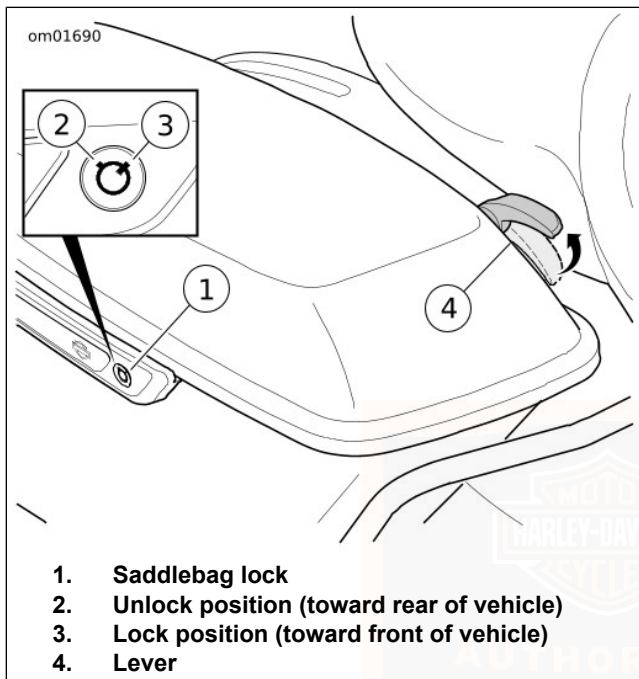

Figure 60. Saddlebag
1. See Figure 60. Unlock saddlebag lock with the key.
1. See Figure 60. Close the saddlebag lid.
1. See Figure 60. Open the saddlebag.